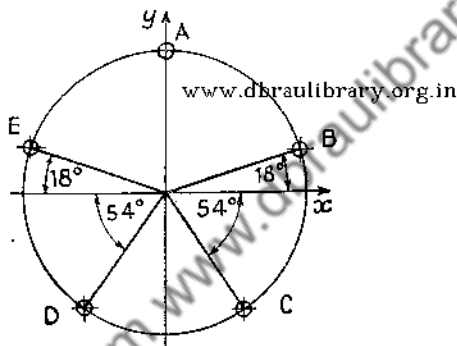

Fig. 49
(2) Five holes are equally spaced round a pitch circle of diameter 10 in. as shown in fig. 49. Calculate the co-ordinates of the holes.